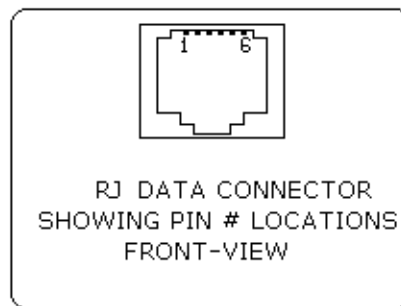

FIGURE 13 – RJ DATA CONNECTOR
- Six connections are provided from the Serial Interface to the host computer. The Table 3 below lists the Serial Interface signals and pin outs on the RJ connector and the connector pin locations are shown in Figure 13.